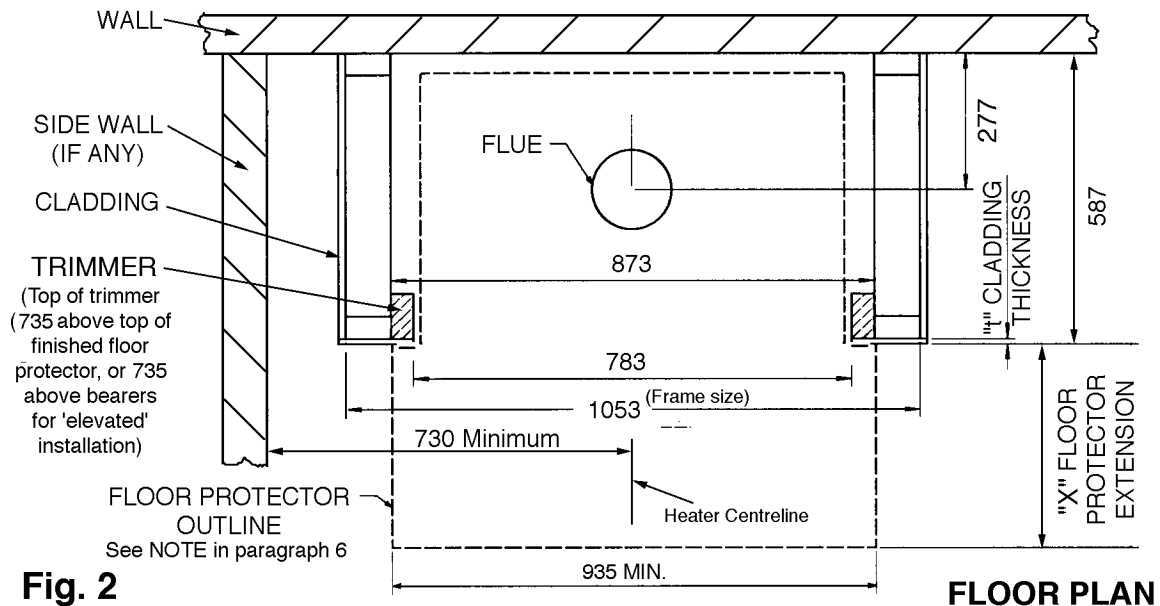

Fig. 2
1. Inspect the house construction at the proposed installation position to verify that the flue shield (250mm diameter, plus 25mm clearance all around) can pass right up through the ceiling space without requiring the removal of essential roof or ceiling support beams. The flue centreline will be 277 mm out from the rear wall and it must be at least 730mm distant from any side wall. (See Fig. 2).
6. For heat sensitive floors, construct a floor protector of the shape shown in the Floor Plan above (Fig. 2). (See page 4 for concrete floors). The standard floor protector is constructed of two layers of 6mm fibre cement board (such as Hardies Tile and Slate Underlay), topped with a layer of tiles or slate. This will give a thickness of approximately 20mm, and the extension from the face of the front cladding must be at least 385 mm. The floor protector must be at least 935 mm wide.